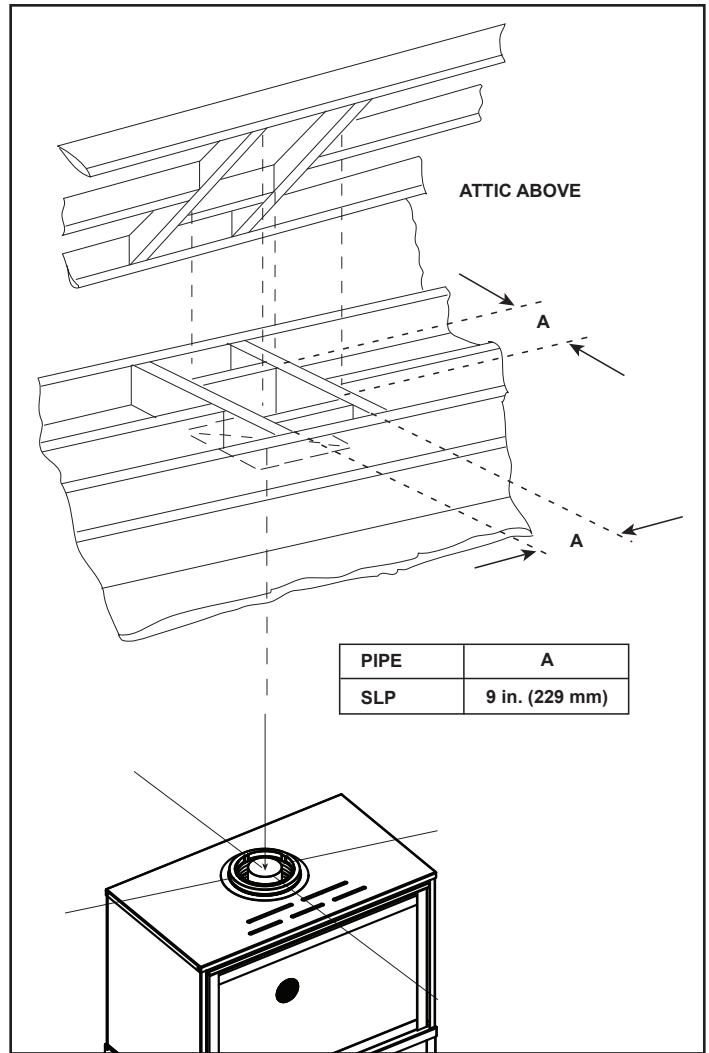

Figure 5.2 - Installing Ceiling Firestop
- **SLP Pipe** - Frame opening 9 in. x 9 in. (229 mm x 229 mm) whenever the vent penetrates a ceiling/floor (see Figure 5.2).